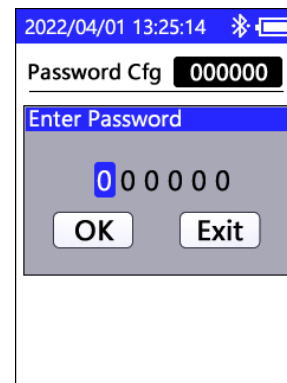

Figure 16. Modify Password
4. Once setting, Select the **OK** button to confirm the new password (Figure 16).